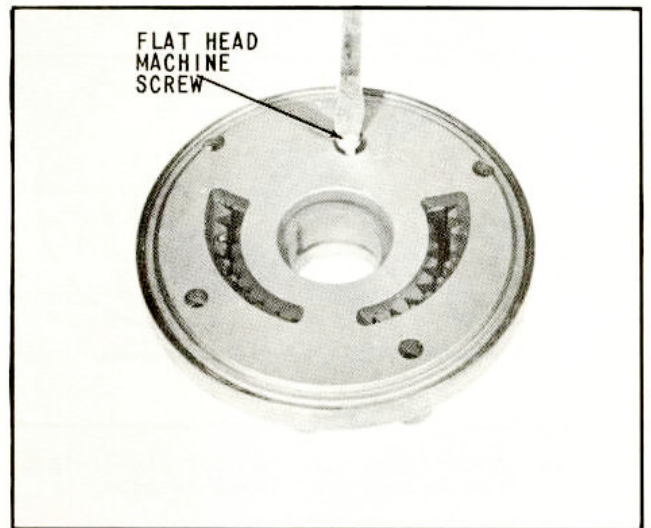

Fig. 93 Installing Flat Head Machine Screw through Backing Plate
10. Install the flat head machine screw and tighten to final torque of 25 to 35 pounds-inch, (Fig. 93). Check rotation of gears as assembled in pump housing; disassemble and inspect if gears do not turn freely.